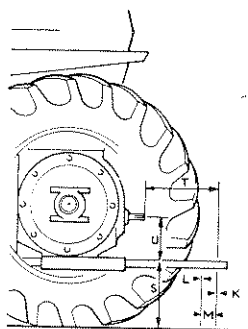

Fig. 1
2. The front drawbar hitch on the baler can be adjusted up or down or inverted 180°, see **Fig. 1**, to achieve proper alignment with the tractor drawbar. The distance from the bottom of the baler hitch mount to the ground should be $17" \pm 1"$. Ensure all fasteners are tightened and in their proper position.